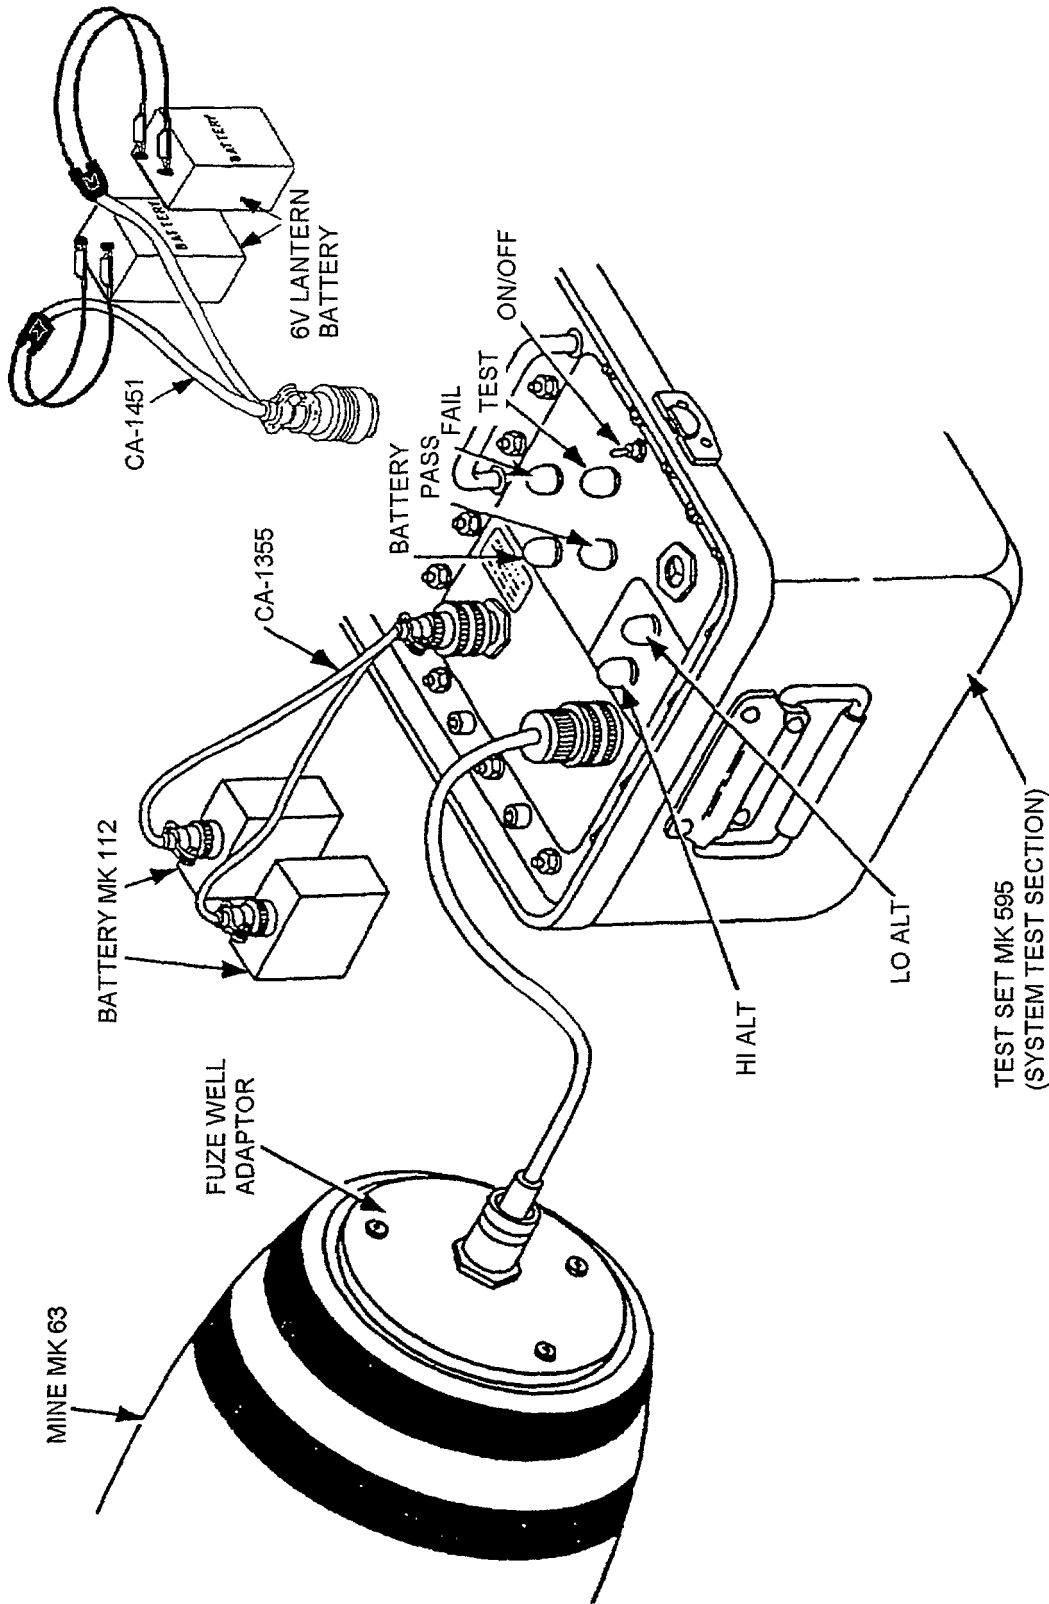

Figure 4-14E. System Test Set-Up
- g. Connect P1 leg of CA-1355 connector on system test section. Connect P2 and P3 legs to Batteries Mk 112 (Figure 4-14E). Proceed to step i.
- i. Connect the P1 connector of fuze well adapter to CA-1351 panel connector on system test section (Figure 4-14E).